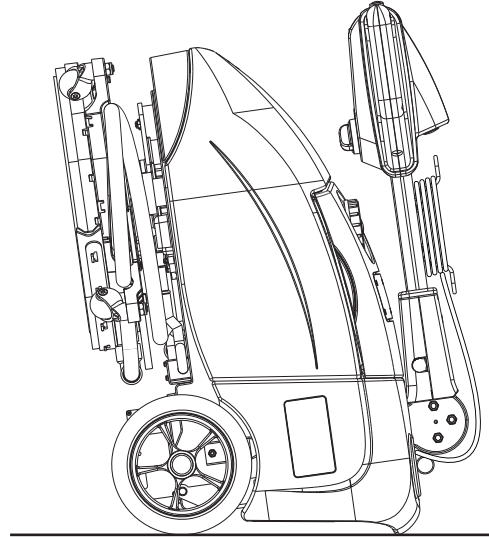

Figure 4
2. Open the cover (4) and disconnect the battery connector (7).
4. To safeguard the brush or squeegee blades, turn the handlebar (1) forward and park the machine as shown in figure 4.